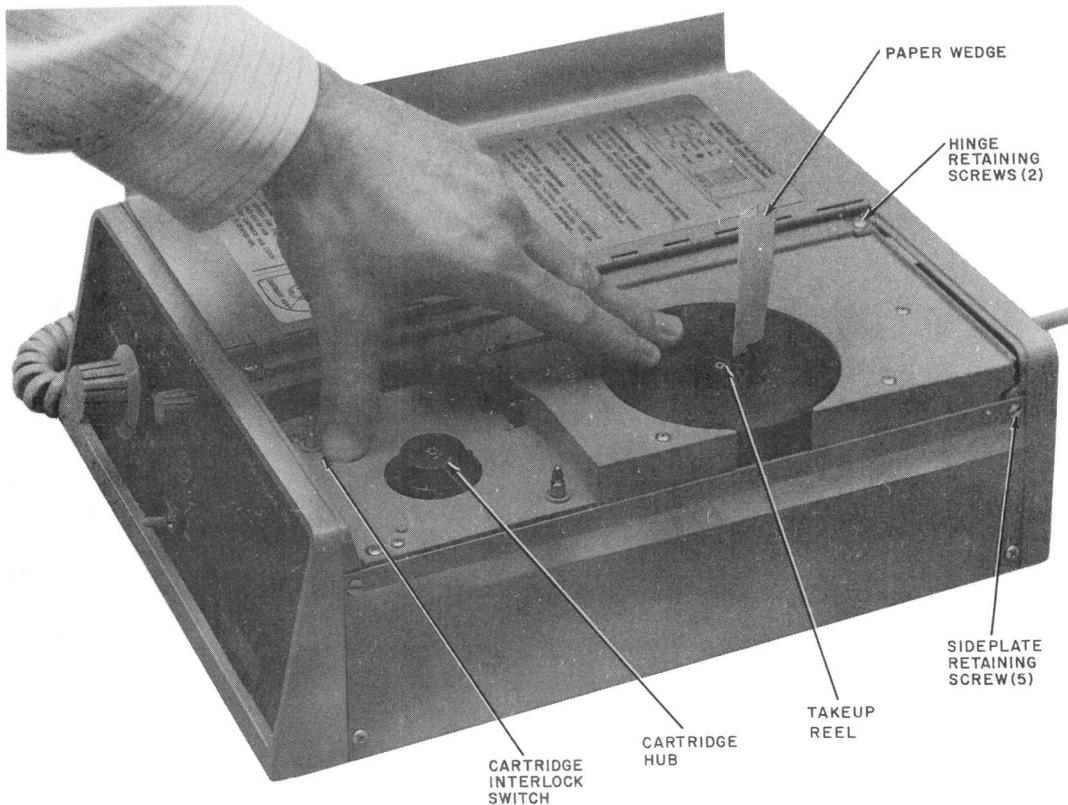
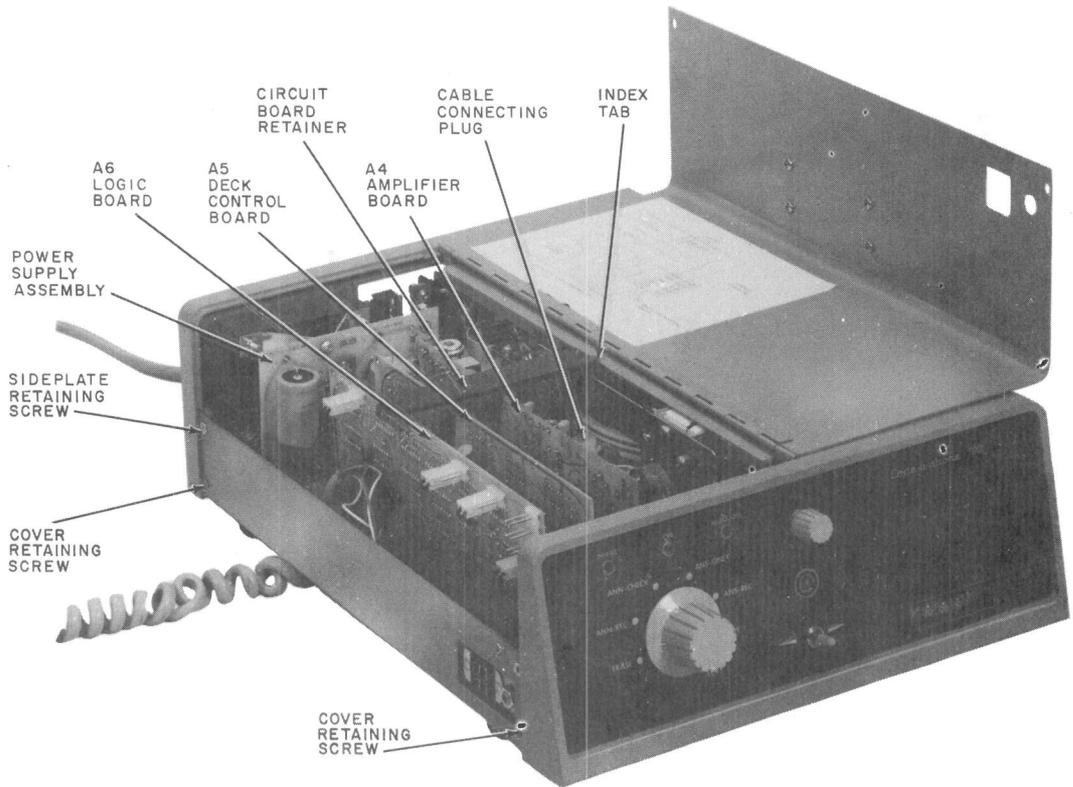

Fig. 2—Resetting "0" Registration on Message Indicator Dial
Fig. 3—Top Cover Removed, Internal View of Components
- (3) Verify the message tape is not at the end limit by making certain that the message indicator dial is reading less than 80.
- (4) Check phone connection at set terminal board for type of service.
- (5) Remove cover retaining screws from left side.
- (6) Lift left side cover and remove circuit board retainer.
- (7) Remove power cord from ac outlet.
- (8) Check options for proper selection.
- (9) Check that A4, A5, and A6 circuit boards are properly installed.
- (10) Check that cable connecting plugs for power supply and tape deck (Fig. 6) on the interconnect board and the cable connecting plug on the A4 board (Fig. 3) are firmly in place.
- (11) Replace circuit board retainer, left side cover and reinsert ac power cord.
- (1) Manual method (Fig. 2).
- (2) Rapid rewind method (Fig. 2).
4.01 Plug-in Circuit Boards (A4, A5, and A6; Fig. 3).
- (1) Remove top cover (Fig. 3).
- (d) Remove two hinge retaining screws (Fig. 2).
- (2) Remove tape deck.
- (a) Remove cable connecting plug for A4 circuit board (Fig. 3).
- (g) Install cable connecting plug for A4 (Fig. 3).
- (6) Install cover.
- (b) Install two hinge retaining screws (Fig. 2).
- (d) Open left side of cover and install circuit board retainer (Fig. 3).
(3) To install cartridge (Fig. 2).
(a) Remove two cover retaining screws from left side (Fig. 3).
(b) Lift cover and remove circuit board retainer (Fig. 3).
(k) Replace the circuit board retainer making certain that all circuit boards are in the slots of the retainer and that the index tab of the retainer fits into the slot in the tape deck assembly (Fig. 3).
(4) Close cover and install two retaining screws (Fig. 3).